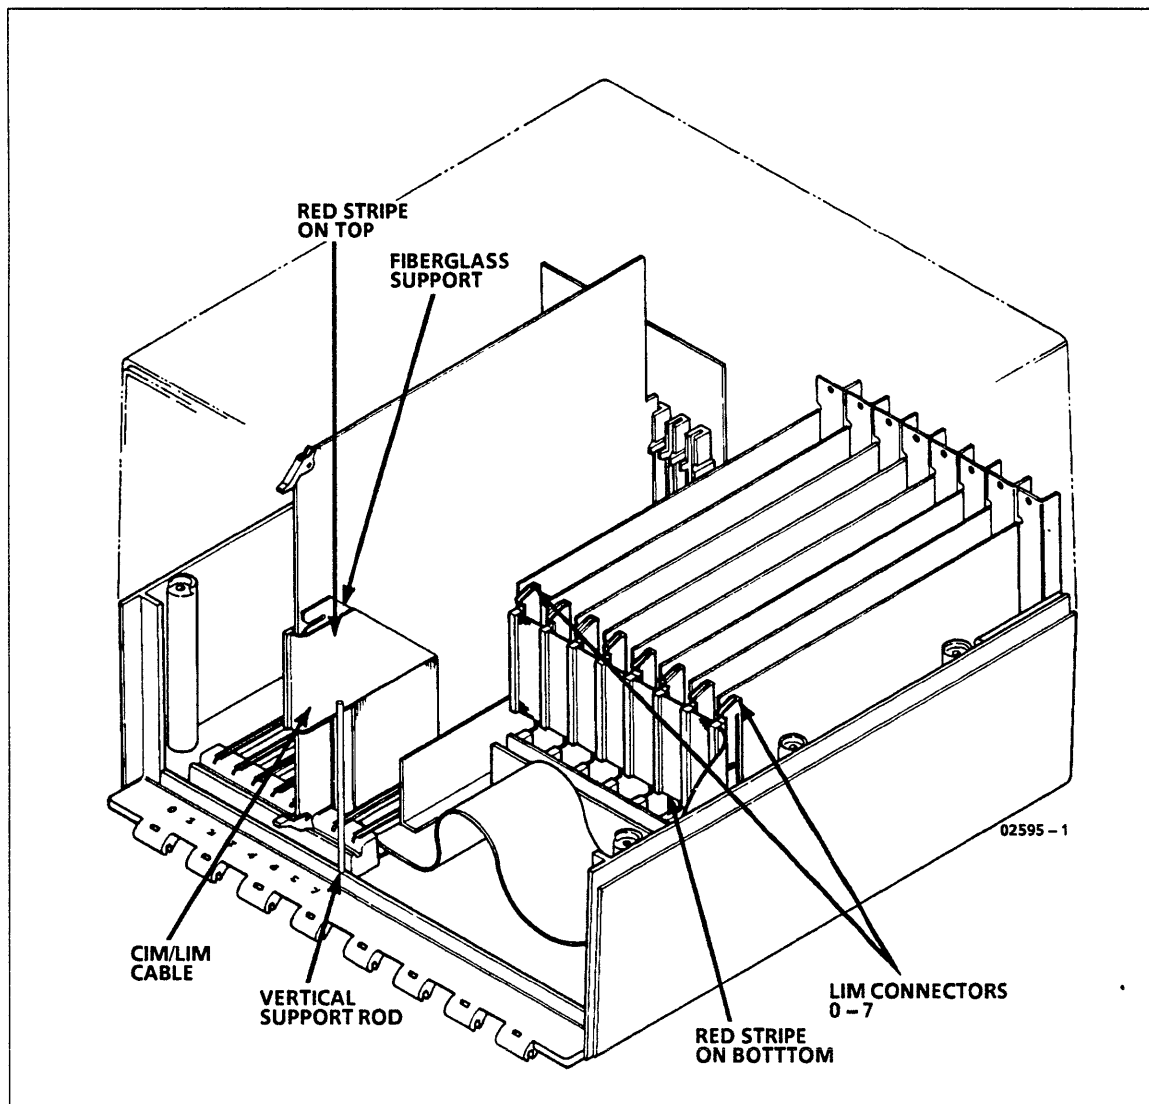

Figure 9-22. CIM/LIM Interconnect Cable
3. Disconnect CIM/LIM cable from all attached LIM boards (figure 9-22) by rotating upper and lower cams simultaneously.
4. Disconnect CIM/LIM cable from CIM board (figure 9-22) by rotating upper and lower cams simultaneously.
When replacing the cable, the red stripe **MUST** be **UP** on the CIM board and **DOWN** on the LIM board (figure 9-22), or serious damage can result.